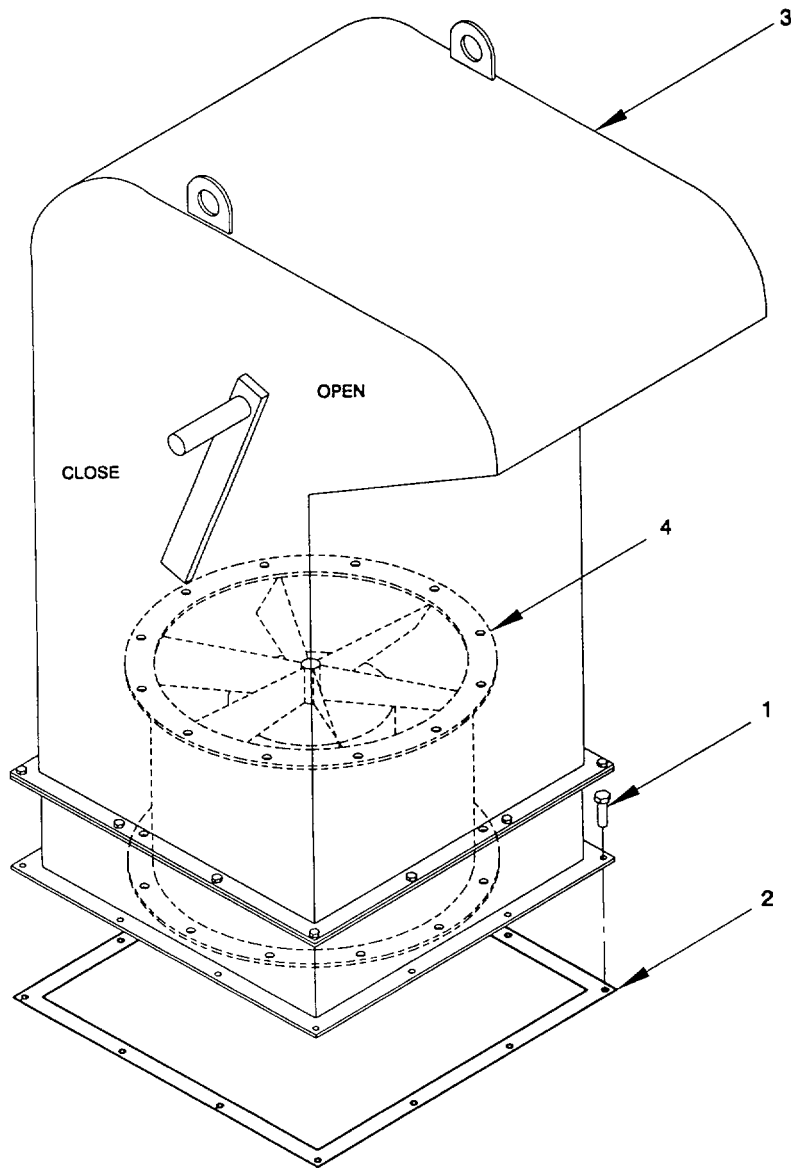

Figure 2-165. Exhaust Plenum Assembly, Remove/Install.
a. *Remove.* (figure 2-165)
- (1) Tag and disconnect electrical wiring to Ventilation Fan (6). Refer to Appendix G.
- (2) Remove 12 hex head capscrews (1) and hex nuts (2) securing exhaust plenum (3). Remove exhaust plenum (2) using appropriate lifting equipment attached through lift eyes, gasket (4), and T-wrench (5) keeping ventilation fan (6) attached to plenum.
b. *Install.* (figure 2-165)
- (1) Position gasket (4) and exhaust plenum (3) assembly using appropriate lifting equipment attached through lift eyes. Ensure T-wrench (5) is in position on plenum.
- (2) Secure exhaust plenum (3) with 12 hex head capscrews (1) and hex nuts (2).